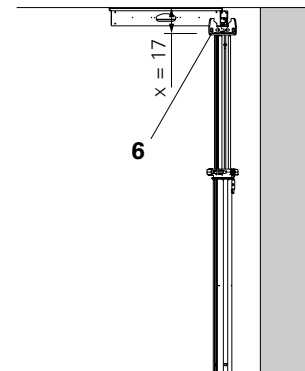

Fig. A2.07
1. Adjust the extension lengths of the props. Clear room height minus dimension  $x$ . (Fig. A2.07).